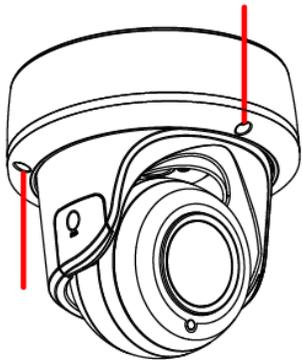
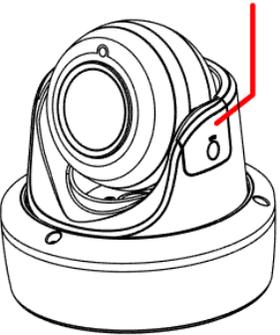
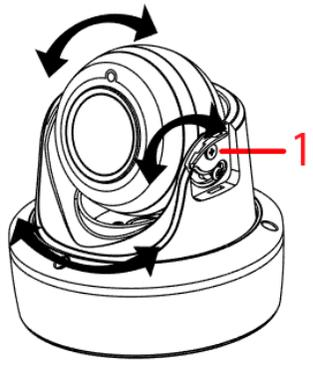

Figure 1
Figure 6
Figure 7
A. Unscrew the three M3x16mm (Torx T10) screws (Fig. 1).
- Remove the side cover (Fig 6), and loosen the screw (1) (Fig. 7) to adjust the lens tilt.
- Loosen the three screws (Fig 1) to adjust the lens pan.
- Once the lens is positioned, retighten the screw (1) (Fig.7) and the three screws on the camera base (Fig. 1).